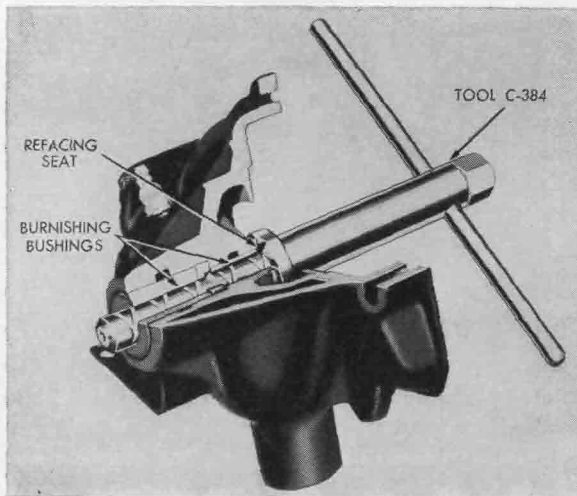

FIG. 14-21. Burnishing bushings and refacing seal seat with special tool. Housing has been cut away to show tool. (*Plymouth Division of Chrysler Corporation*)
- e. Any parts showing wear should be discarded. Always use a new seal and retaining washer on reassembly. If the seal seat in the pump body is scored or rough, it should be refaced with special tool (Fig. 14-21).
i. Use special tool to burnish bearings, and reface the seal seat in the pump body (Fig. 14-21).